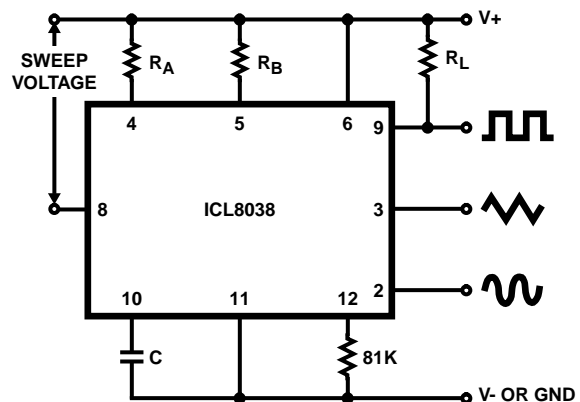

FIGURE 5B. CONNECTIONS FOR FREQUENCY SWEEP
7. The hi and lo frequencies can be obtained by connecting pin 8 to pin 7 (f_{HI}) and then connecting pin 8 to pin 6 (f_{LO}). Otherwise apply Sweep Voltage at pin 8 ($\frac{2}{3} V_{SUPPLY} + 2V$) $\leq V_{SWEEP} \leq V_{SUPPLY}$ where V_{SUPPLY} is the total supply voltage. In Figure 5B, pin 8 should vary between 5.3V and 10V with respect to ground.
For larger FM deviations or for frequency sweeping, the modulating signal is applied between the positive supply voltage and pin 8 (Figure 5B). In this way the entire bias for the current sources is created by the modulating signal, and a very large (e.g. 1000:1) sweep range is created ($f = 0$ at $V_{\text{SWEEP}} = 0$). Care must be taken, however, to regulate the supply voltage; in this configuration the charge current is no longer a function of the supply voltage (yet the trigger thresholds still are) and thus the frequency becomes dependent on the supply voltage. The potential on Pin 8 may be swept down from V+ by ($\frac{1}{3} V_{\text{SUPPLY}} - 2V$).